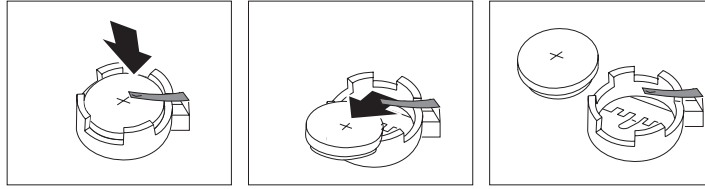

Figure 175. Removing the SAN Volume Controller 2145-4F2 system-board CMOS battery
4. Use a finger to lift the battery clip above the battery, which is shown in Figure 175 on page 505.